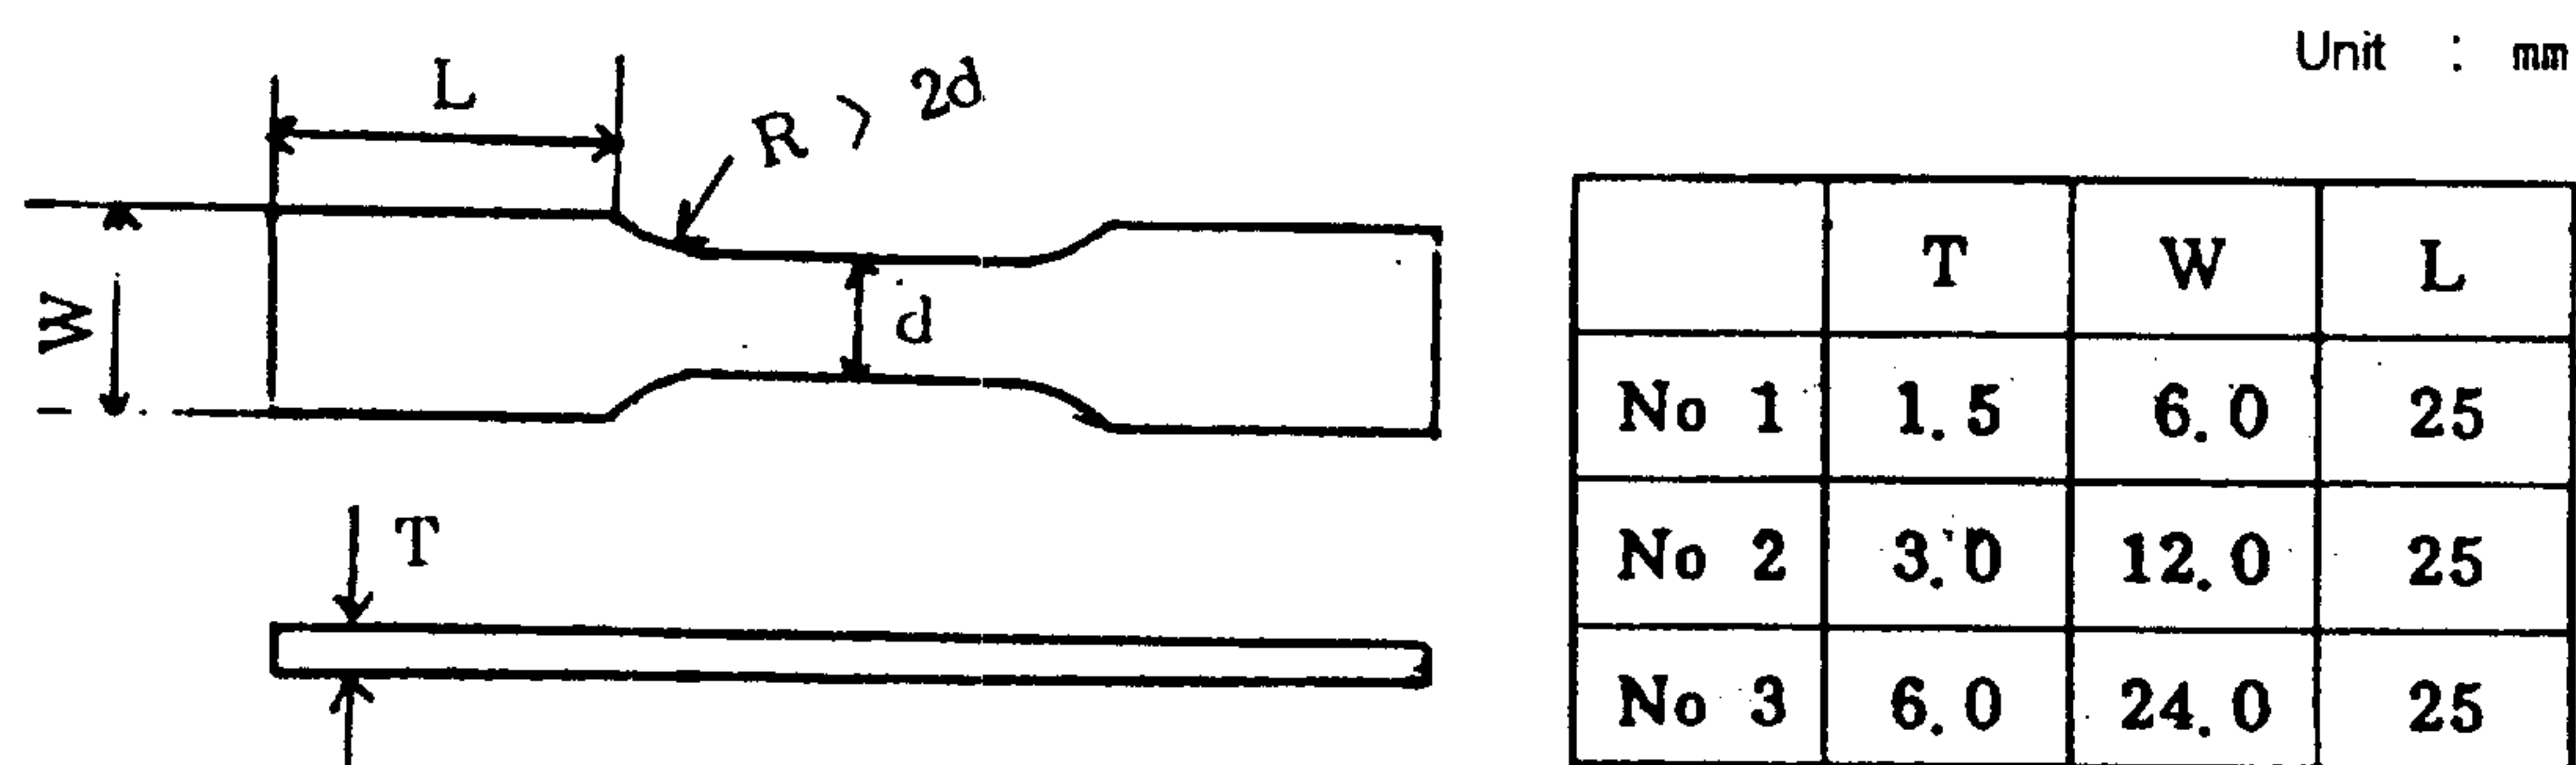

Figure 1: Fatigue test sample for 10-ton MTS
- 2.2 The size of standard test sample is shown in the figure 1. If the thickness of test raw material differs from that of standard test sample, add steel plate for thickness compensation to the test sample.